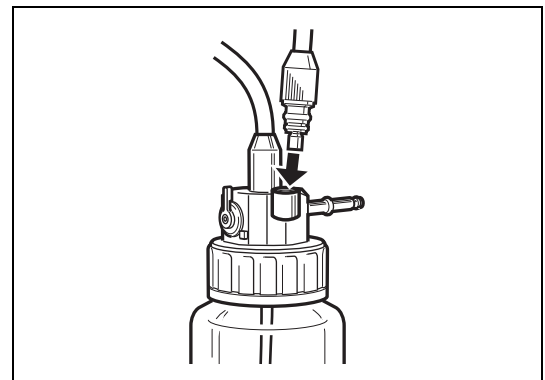

Figure 2.3
- Insert the air/water connector into the holder of the cap until the scope is connected. (Refer to Figure 2.3)